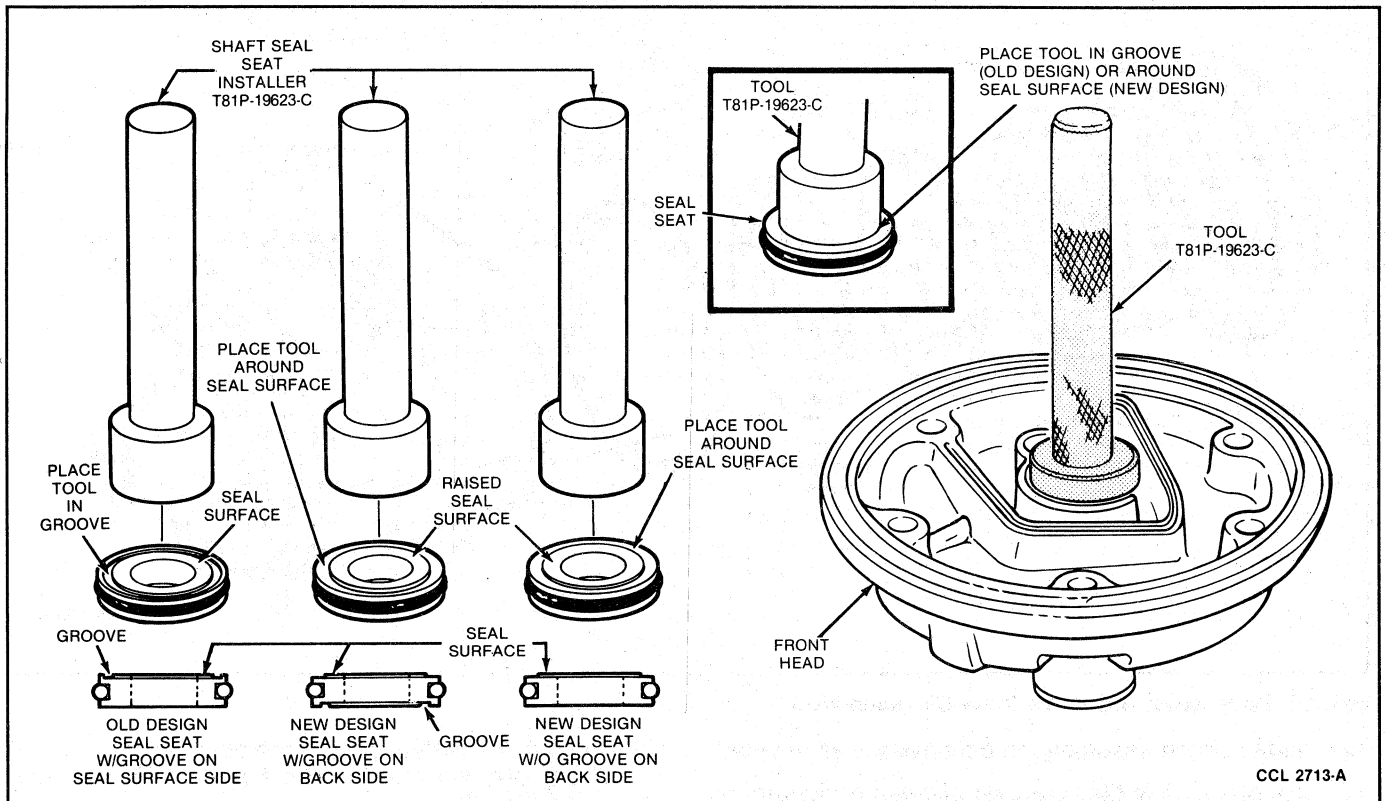

FIG. 17 Shaft Seal Seat Assembly—Installation
6. Lubricate new shaft seal seat with clean refrigerant oil and install seat in the front head with the groove on the seat sealing surface up. Use Shaft Seal Seat Installer T81P-19623-C or equivalent positioned in the groove of the seat to install the seat in the head (Fig. 17).
27. Lubricate new shaft seal seat with clean refrigerant oil and install the seat in the front head (groove side up). Use Shaft Seal Seat Installer T81P-19623-C or equivalent positioned in the groove of the seat in the head (Fig. 17).